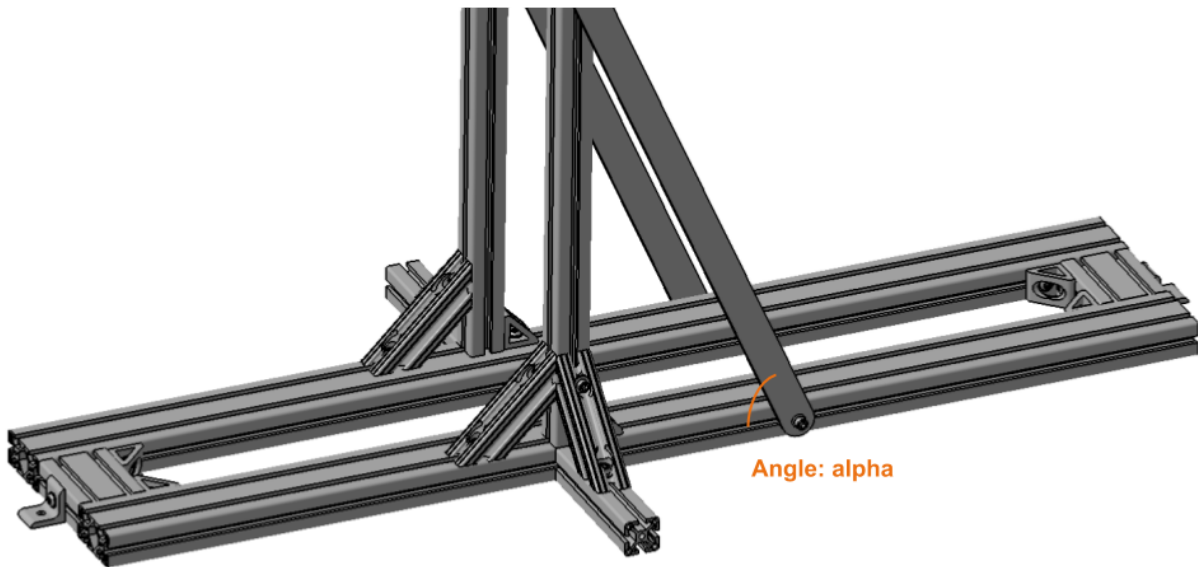

Fig. 4.16: Gather your two previous assemblies.
- ❑ To connect the upper and lower part, place the stand structure that you built previously in the middle of ground structure, as shown below in Fig. 4.16.
- ❑ **ATTENTION:** The angle ( $\alpha$ , as shown in Fig. 4.16) between the aluminum side rod and the ground must be between 50 and 60 degrees to minimize the buckling effect and the load on the structure.